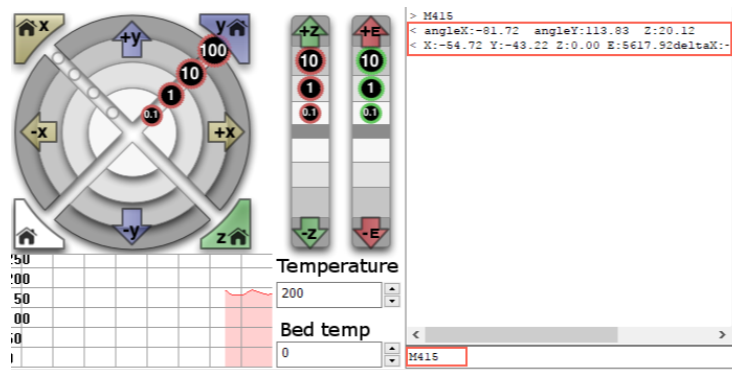

Figure 6.28 Input command M415
2. Input command **M415** on the lower right of the **Operational** page to save the printing coordinates, as shown in Figure 6.28.